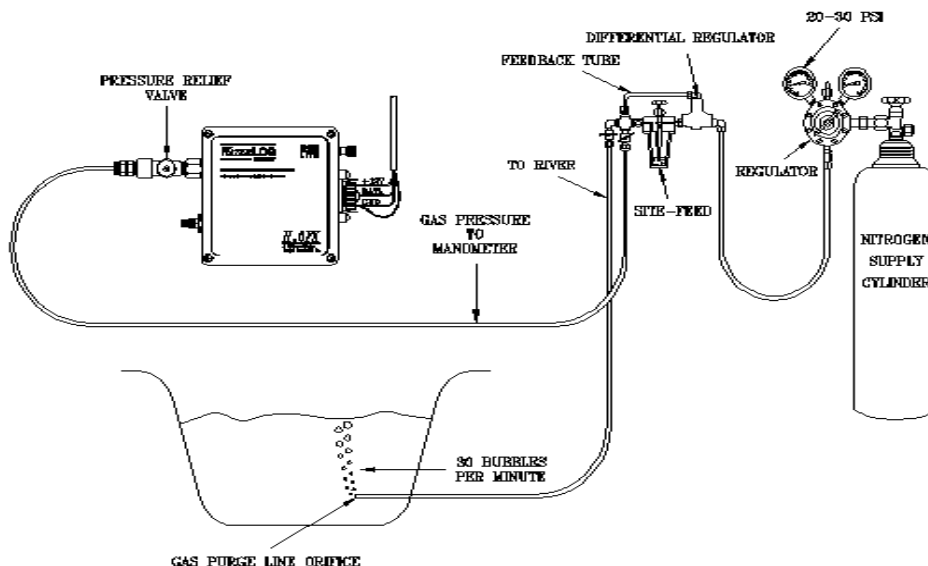

Figure 2-1 Gas-Purge Stream Gauge Installation
2. Connect the pressure line between the H-3531 FlashLite™ and the bubbler system. This can be done using the H-350-Install kit, where all the required hardware is provided. If you did not purchase the H-350-Install kit, you will need to procure the parts from your local plumbing supplier. You will need a 1/8" NPT male tubing fitting for the pressure input port. It is recommended that you use 1/8" copper tubing. The proper ferrules must be used to insure there are no leaks. The male 1/8" NPT fitting screws into the pressure input port of the H-3531 connector panel shown in Figure 2-1. On the bubbler manifold, you will need a corresponding tubing fitting. Generally, a 1/4" NPT female to 1/8" tubing fitting is called for. The NPT threads of these fittings need a coat of Teflon tape or anaerobic thread dope. This helps in preventing leaks.
The H-355 Control interface allows the user to program the H-355 Gas Purge System to meet the environment that it is installed in. This is also an option that the user must enable by sending the appropriate SDI-12 command or by using the simple RS232 menu interface as explained in chapter 4 and 5. Once enabled this feature makes setting up the H-3531 FlashLite™ with the H-355 Gas Purge System quick and easy. As shown in Figure 2.1 on page 2-2.